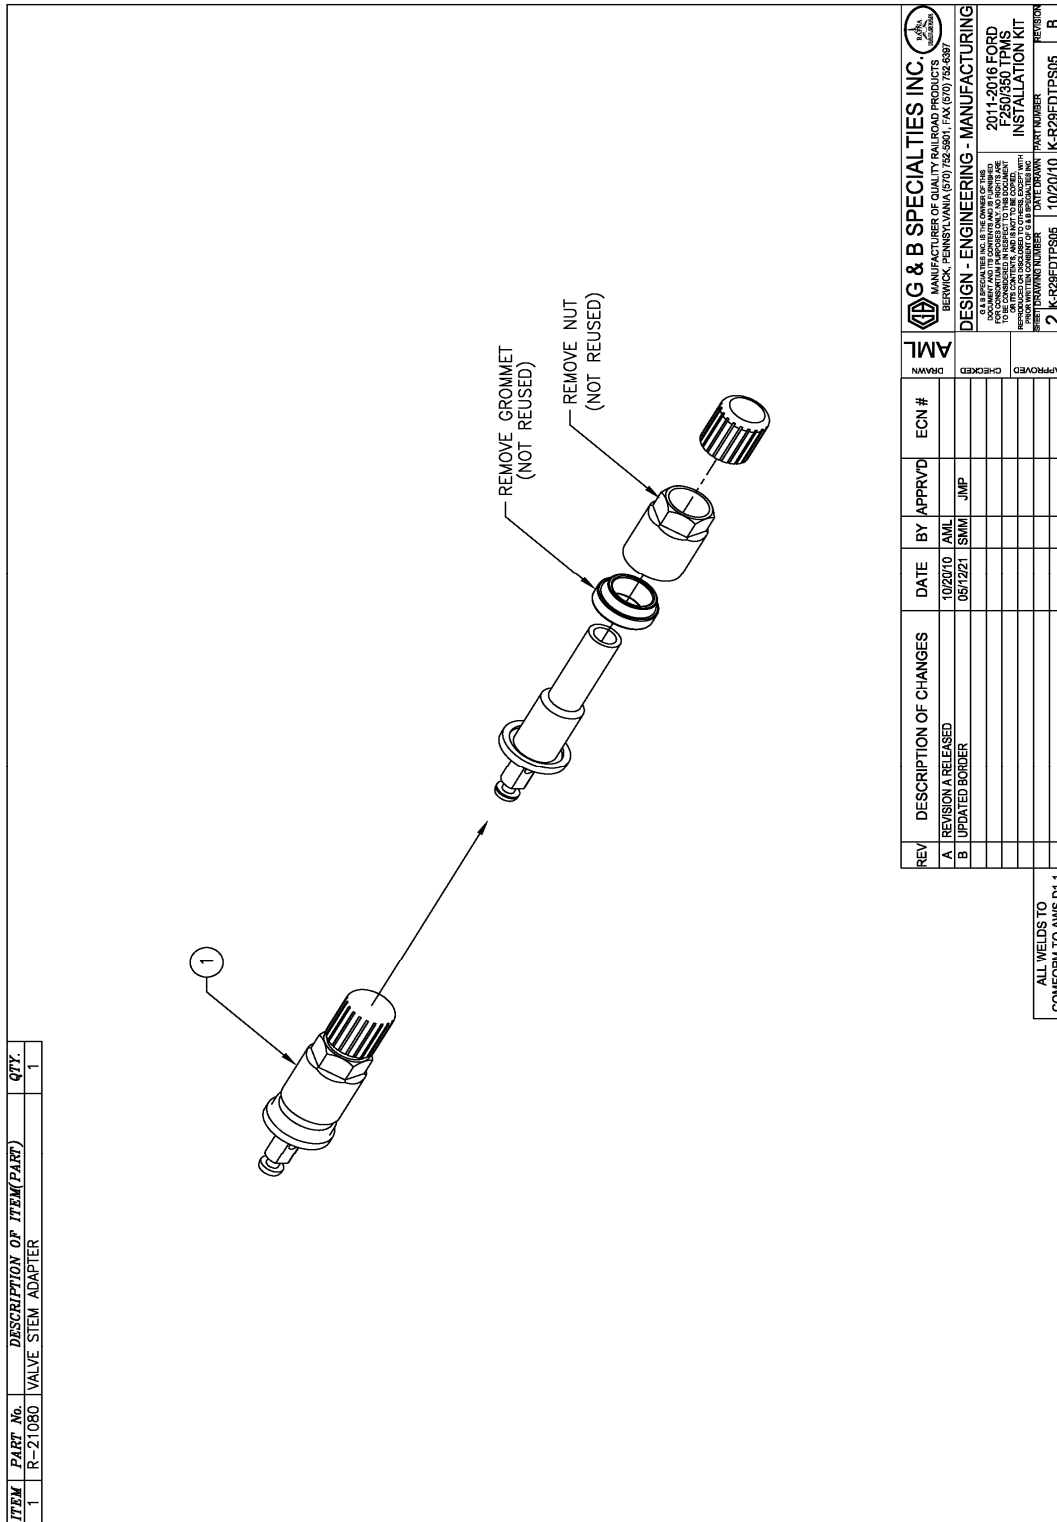

Figure 2
3. Remove the nut and rubber grommet from the valve stem adapter supplied with this kit, as shown. The nut and rubber grommet will not be reused. (Figure 2)